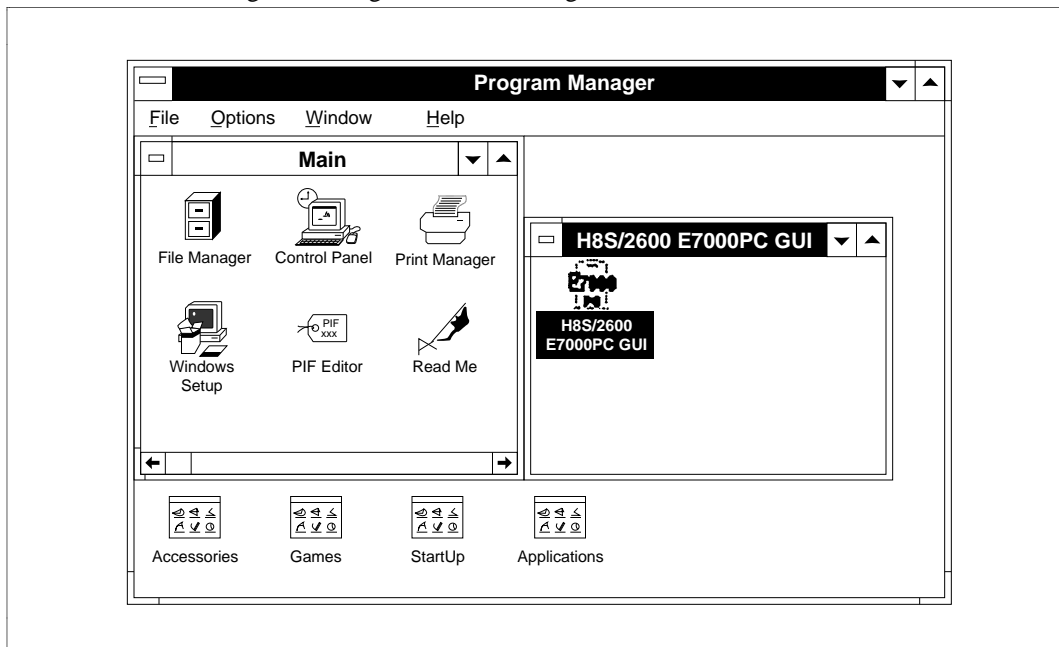

Figure 2-11 Program Manager Window and GUI-2600 Initiation
- (1) Initiate Windows. Immediately after GUI-2600 installation, temporarily terminate Windows and MS-DOS, and then re-initiate them.
- (2) Power on the emulator.
- (3) Using the left button on the mouse, double-click the GUI-2600 icon in the GUI-2600 group window of the Program Manager, as shown in figure 2-11.